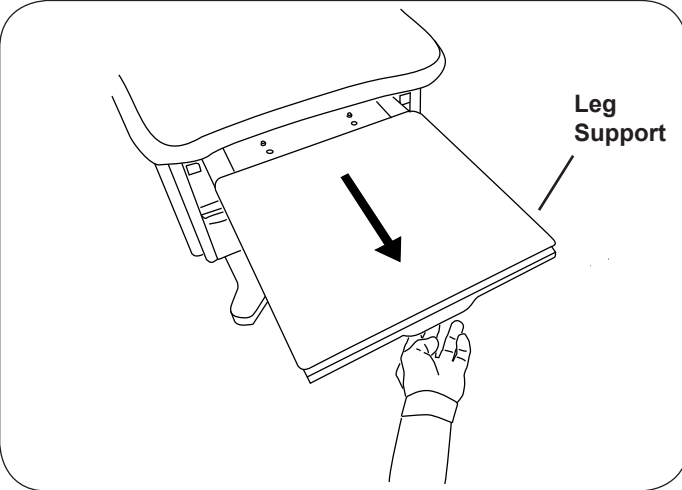

Figure 25. Leg Support Pull Out
The leg support is located under the seat cushion. (Figure 25). It can be extended " for the patient prone position. Fully extend leg support. A heavy duty magnet locks the leg support into the fully extended position. To return the leg support to its stored position simply push the leg extension in.
2. When the desired position is achieved, lower the stirrup to engage the lateral locking mechanism (Figure 25).